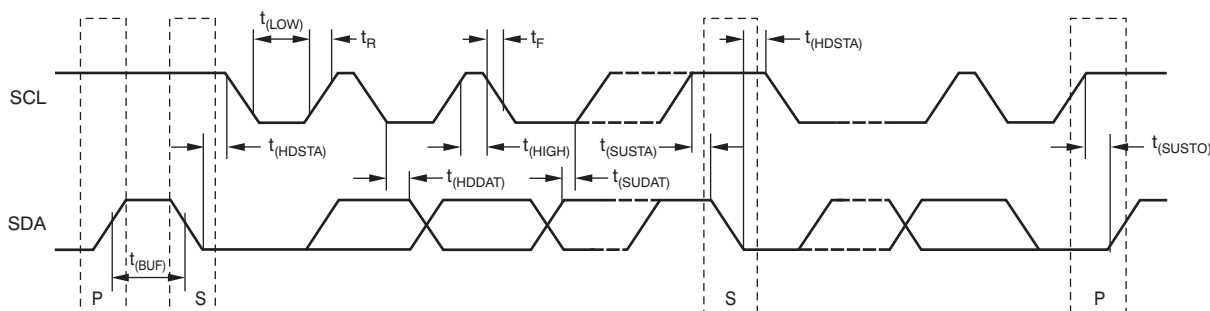

Figure 16. Two-Wire Timing Diagram
Figure 16 describes the timing operations on the BUF12840. Parameters for Figure 16 are defined in Table 6. Bus definitions are:
**Start Data Transfer:** A change in the state of the SDA line, from high to low, while the SCL line is high, defines a START condition. Each data transfer is initiated with a START condition, denoted as S in Figure 16.
**Stop Data Transfer:** A change in the state of the SDA line from low to high while the SCL line is high defines a STOP condition. Each data transfer terminates with a repeated START or STOP condition, denoted as P in Figure 16.
Table 6. Timing Characteristics for Figure 16